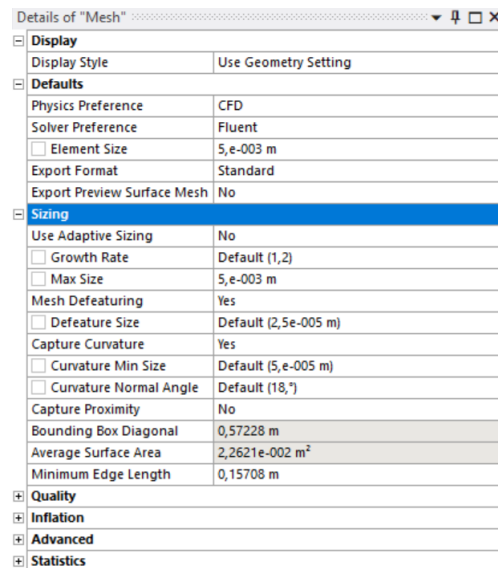

Figure 29: Default values for *sizing* in ANSYS Mesh.
- Once the definition of the regions is complete, we can proceed to the generation of the meshes by adopting the *default* settings for what concerns the information on the minimum and maximum dimensions of the cells, the grid generation algorithm etc. This information can be found by clicking on *Mesh* → *Default* and *Sizing* in the tree on the left, as shown in figure 29.